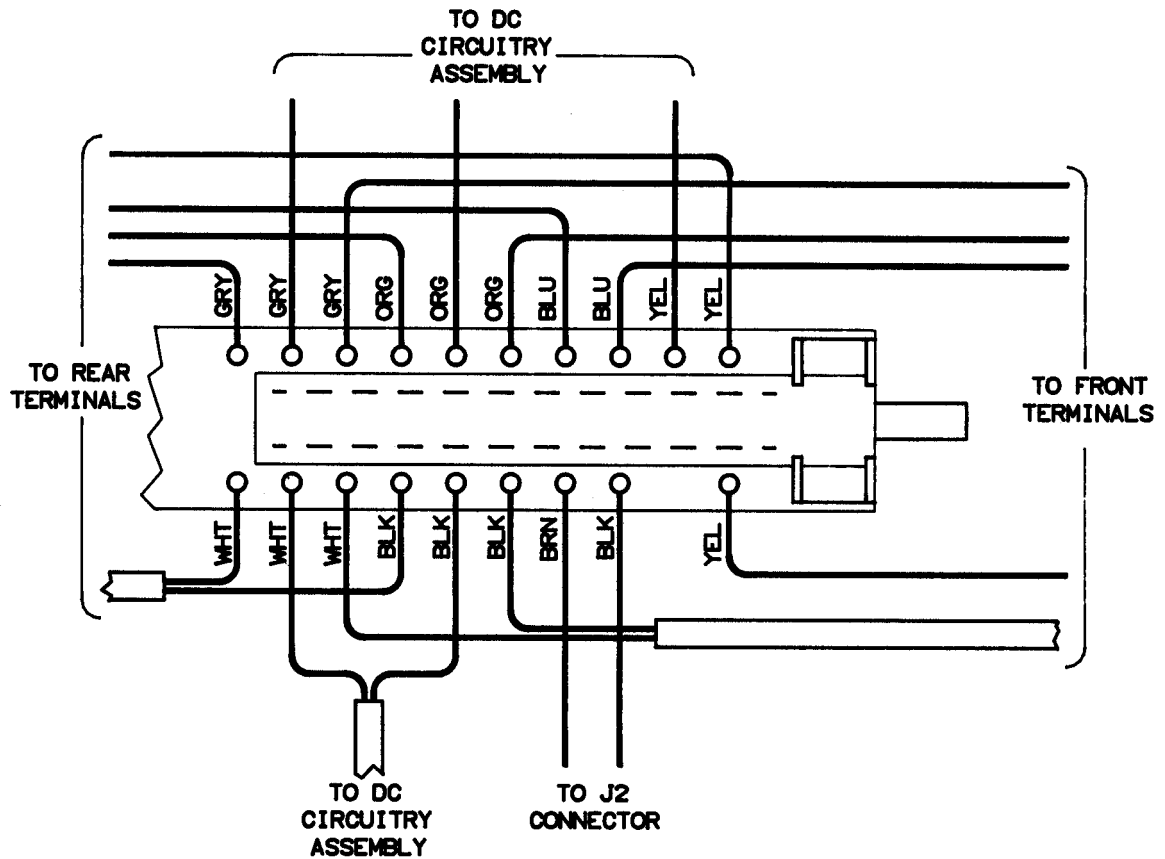

Figure 27. Wire/Cable Locations on Front/Rear Terminals Switch
5. On the Front/Rear Terminals switch assembly, note for future reference the location of the wires connected to the assembly. These locations are also shown in Figure 27. Then unplug and lay aside all wires from the assembly.
1. Refer to Figure 27. Plug in all wires to the Front/Rear Terminals switch assembly. Use the wire locations noted in the previous procedure.